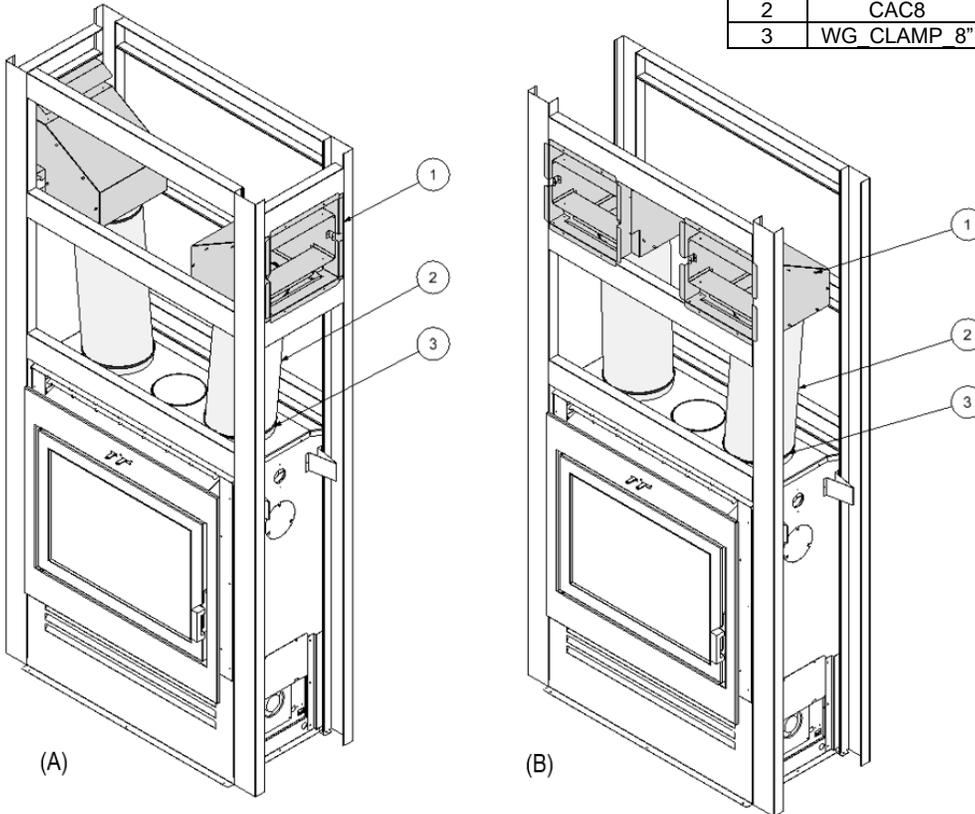

Figure 3-10: Astra Duo 8" Dual Gravity Duct Installation with Outtakes at (A) Side Wall and (B) Front or Back Wall
The Clean Face surround comprises no louvers; however, an intake into the chase and an outtake through gravity ducts is required for this configuration. The instructions below describe the installation of the intake openings, and the gravity ducts/outtakes. Please note that the SUPREME KG550 kit is required for the Gravity Kit installation (Figure 3-10). Note that openings for the intake and the outtake are to be incorporated in the construction of the chase (refer to Section 3.7). Note that the duct adaptors are included in the Gravity Duct kits.
3. Within the outtake opening, fasten the 12" Louver Diffuser (Item 1 of Figure 3-10) to the framing with the 8" duct adapter facing the downward position. Repeat for the other outtake opening.
4. Measure the distance between the Duct Adapter on top of the unit to the Duct Adapter on the 12" Louver Diffuser and cut the 8" Flex Duct (Item 3 of Figure 3-10) to the necessary length. Repeat for the other outtake.
5. Complete the connections by sliding the 8" Flex Ducts over the Duct Adapters and secure the connections with the 8" Worm Gear Clamps (Item 3 of Figure 3-10).